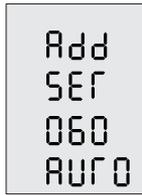

Figure 5-7
Step3: Press “” button and hold **5s** to enter the pairing setting page (Figure 5-7). On this page, you can find the blinking “**ADD**” (address) and “**SET**” (set), and a countdown timer “**060**” (60s).